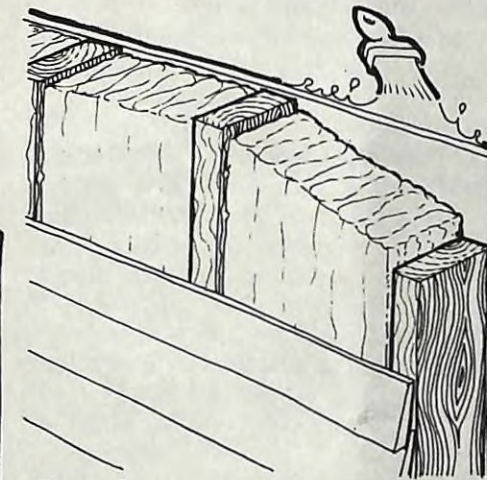

Figure 3
5. Single 2 x 8 stud with no vapour barrier, paint on gypsum board. (fig. 3)